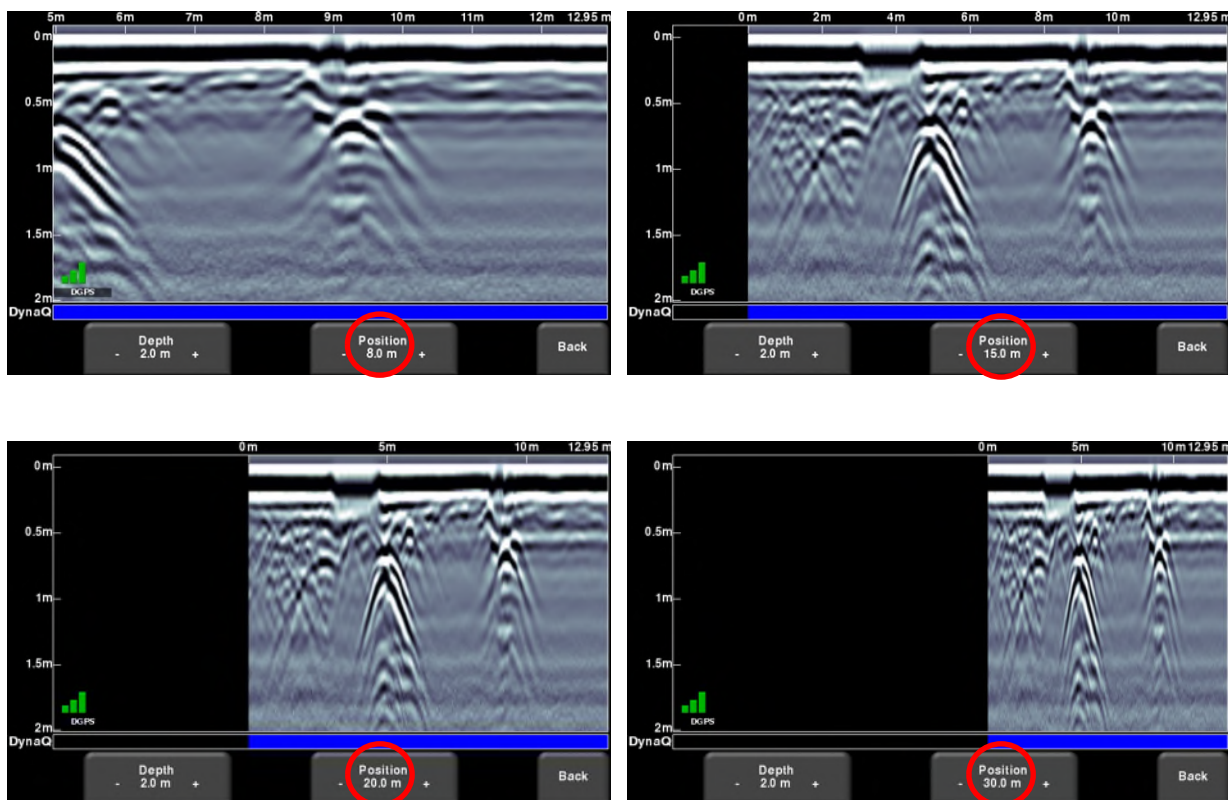

Figure 6-19: Varying position, or horizontal scaling
- Position** – Pressing + and - under the **Position** button allows you to change the length of data display on a single screen. This is also known as horizontal scaling (Figure 6-19) One reason for setting this higher would be to fit more data on the screen and look for consistency among hyperbolas that were crossed.